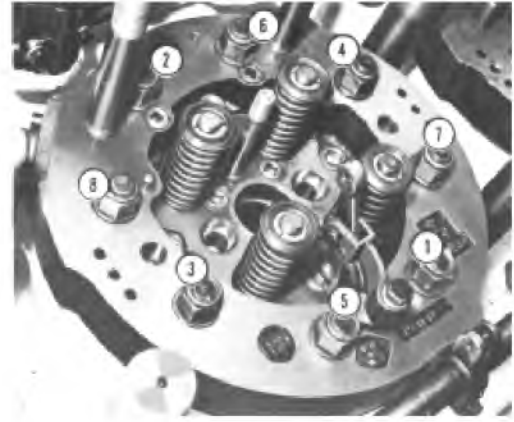

Fig. 5-23 - Head-To-Liner Nut Tightening Sequence
63. Following the sequence as shown in Fig. 5-23, torque the head-to-liner nuts to 102 N-m (75 ft-lbs).
36. Check the head to liner stud nut torque of 325 N-m (240 ft-lbs) starting with the pilot stud and using the tightening sequence as shown in Fig. 5-23.